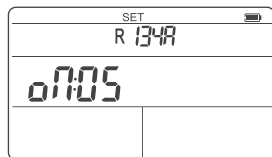

Fig. 10 Time selection
3. With the arrows **◀** and **▶** choose the time before automatic shut-off of the device: 5, 10, 15, 30 or 60 min (Figure 10)